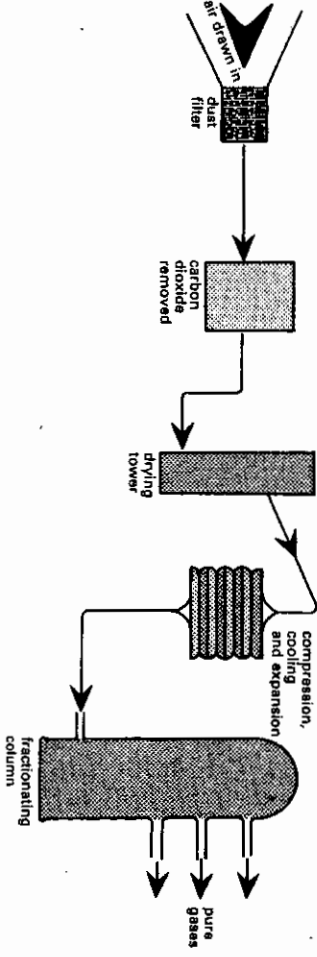

Fig 10.1 Getting gases from air
7. Finally, the liquid air is fractionally distilled. Pure nitrogen, oxygen and argon can be obtained. This process is shown in Fig 10.1.